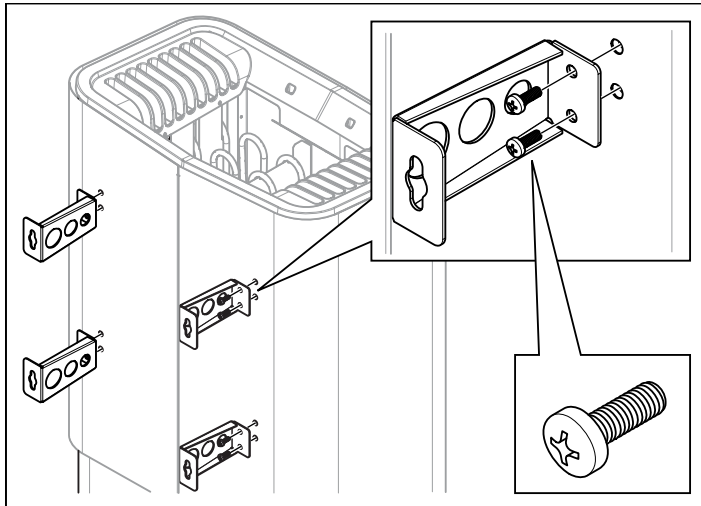

Figure 9: Attaching the brackets to the heater
8. Unscrew the first two screws on the back of the heater and screw one of the four brackets into place. Repeat the procedure until all of the brackets are fitted see Fig. 9.